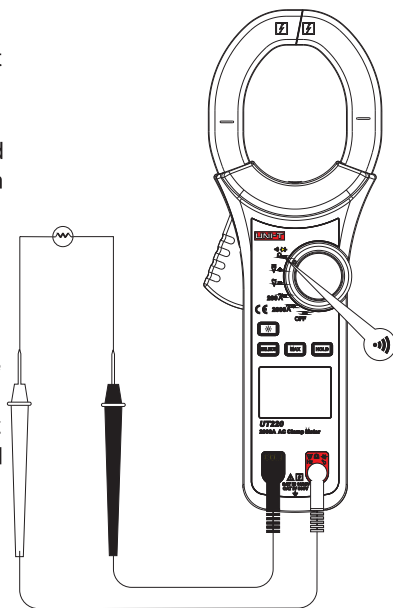

Figure 7
5. Conduction detection ·ⓘ (See Figure 7)